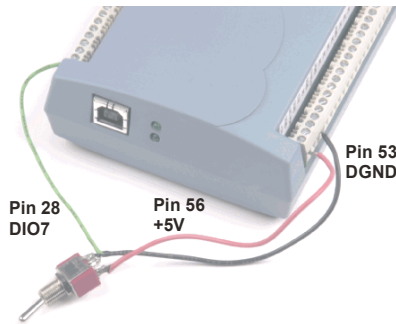
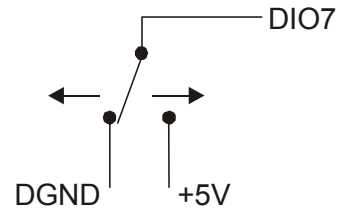

Figure 3-6. DIO7 detecting the state of a switch
Figure 3-7. Schematic showing DIO7 detecting the state of a switch
When you configure the digital bits for input, you can use the digital I/O terminals to detect the state of any TTL level input. Refer to the switch shown in Figure 3-6 and the schematic shown in Figure 3-7. When the switch is set to the +5 V USER input, DIO7 reads *TRUE* (1). If you move the switch to DGND, DIO7 reads *FALSE* (0).